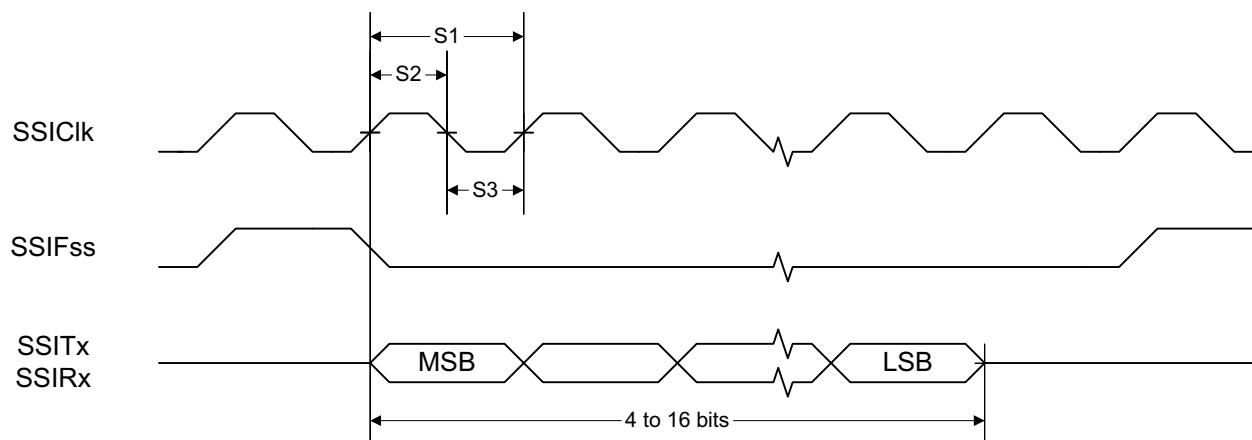
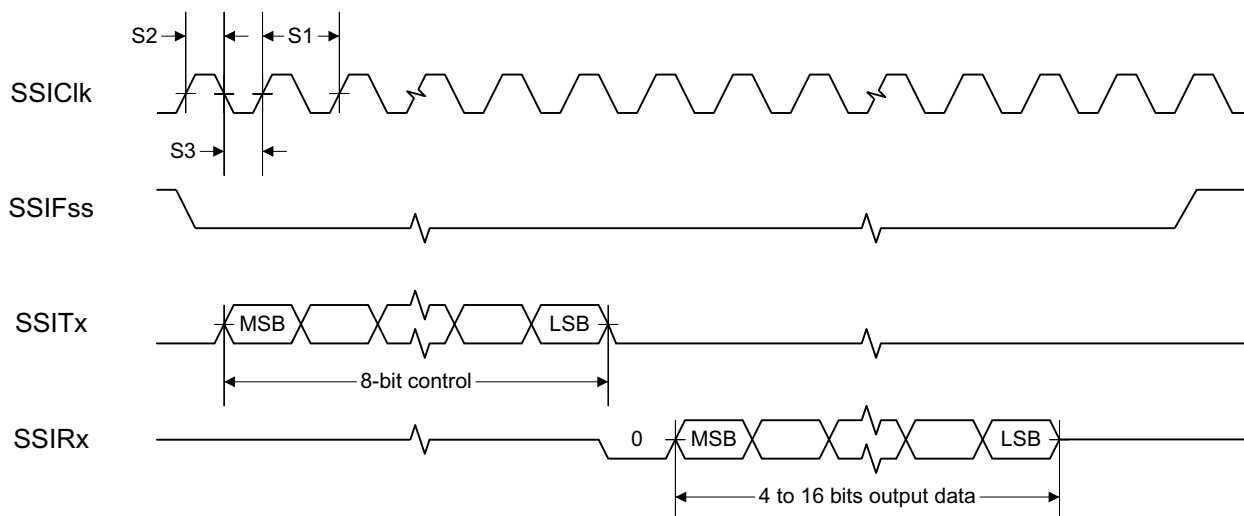
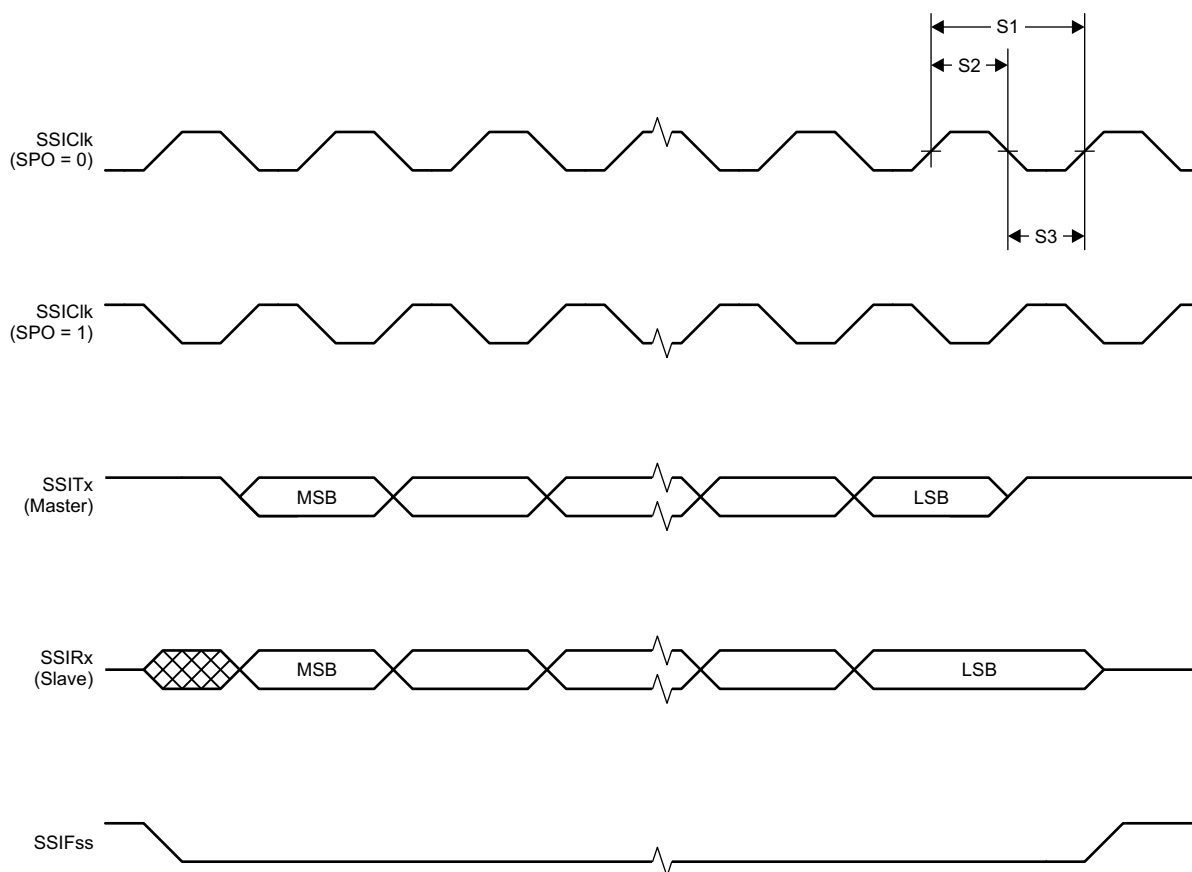

图 8-1. SSI Timing for TI Frame Format (FRF = 01), Single Transfer Timing Measurement
图 8-2. SSI Timing for MICROWIRE Frame Format (FRF = 10), Single Transfer
图 8-3. SSI Timing for SPI Frame Format (FRF = 00), With SPH = 1
- (1) Refer to SSI timing diagrams 图 8-1, 图 8-2, and 图 8-3.
- (2) When using the TI-provided Power driver, the SSI system clock is always 48 MHz.